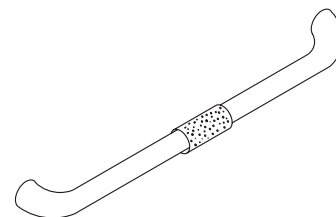

Figure 32
8. Install foam grip on lid handle. See Figure 32.
Attach the lid stop assembly to the grill bottom as shown in Figure 32.